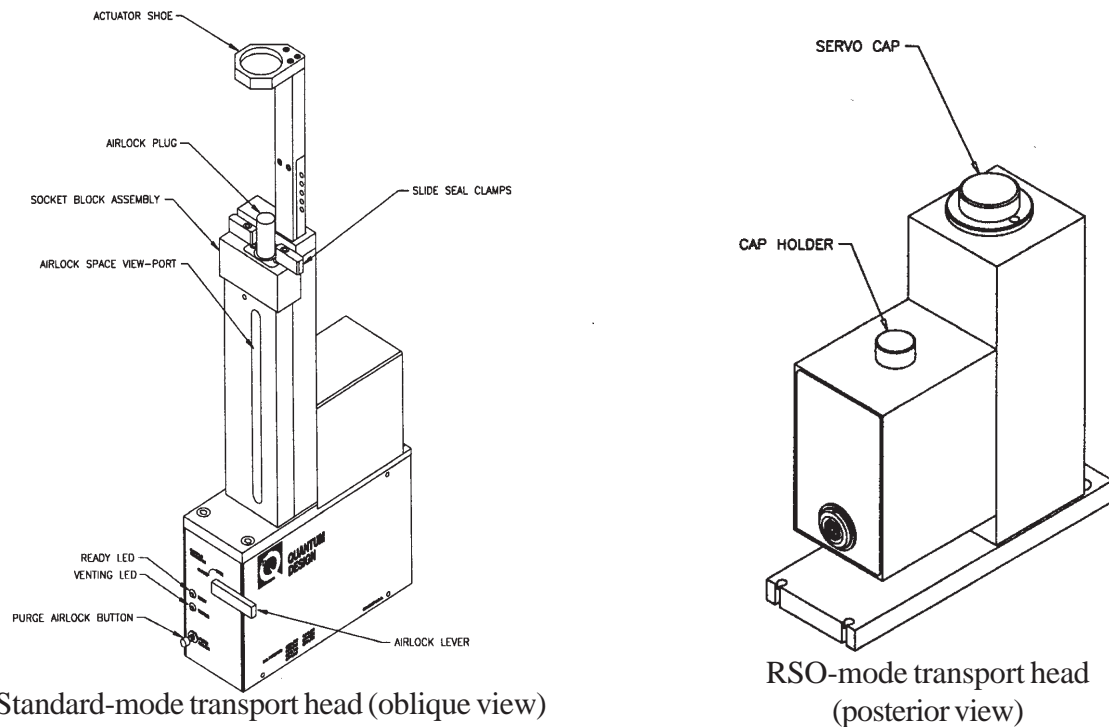

Figure 1. Two possible head configurations for the MPMS. Standard (left), and reciprocating sample option (RSO; right).
2) Determine instrument configuration before proceeding to load your sample into the MPMS (see Fig. 1 below).